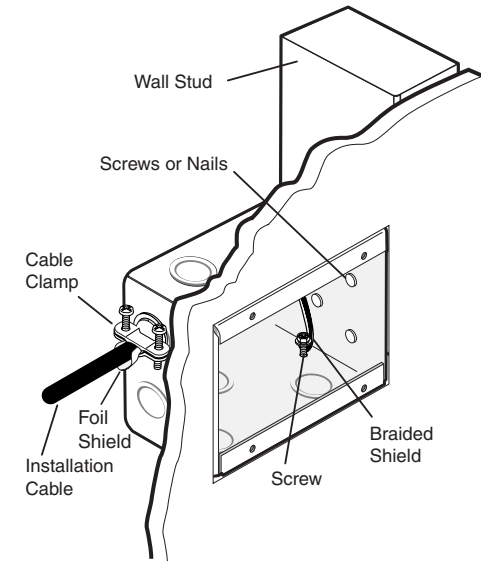

Figure 2-2 — Grounding braided and foil shields
6. Exposed cable shields (braids or foil) are potential sources of short circuits. Trim back and/or insulate shields with heat shrink (figure 2-2).